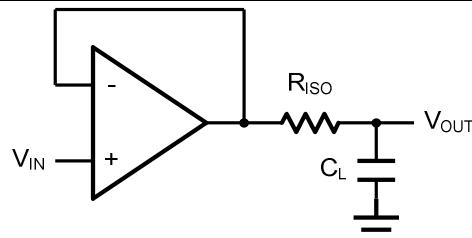
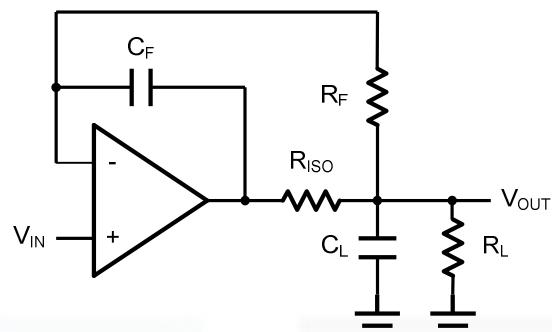

Figure 2. Indirectly Driving a Capacitive Load Using Isolation Resistor
Figure 3. Indirectly Driving a Capacitive Load with DC Accuracy
The GS863x family is optimized for bandwidth and speed, not for driving capacitive loads. Output capacitance will create a pole in the amplifier's feedback path, leading to excessive peaking and potential oscillation. If dealing with load capacitance is a requirement of the application, the two strategies to consider are (1) using a small resistor in series with the amplifier's output and the load capacitance and (2) reducing the bandwidth of the amplifier's feedback loop by increasing the overall noise gain. Figure 2. shows a unity gain follower using the series resistor strategy. The resistor isolates the output from the capacitance and, more importantly, creates a zero in the feedback path that compensates for the pole created by the output capacitance.
The circuit in Figure 3 is an improvement to the one in Figure 2. R_F provides the DC accuracy by feed-forward the V_{IN} to R_L. C_F